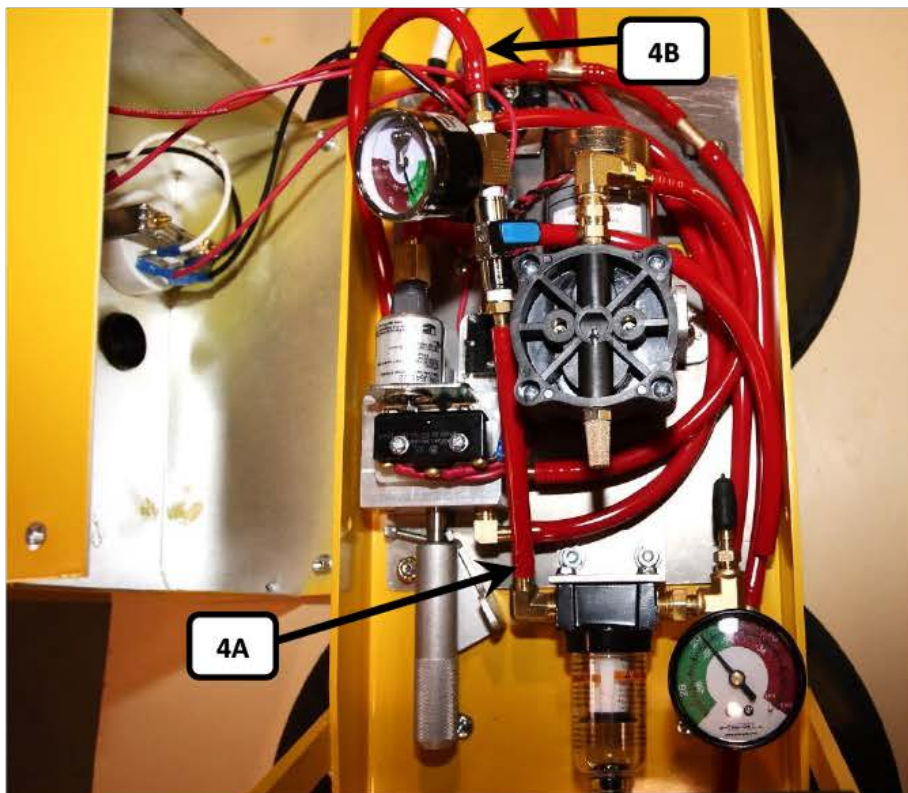

FIGURE 4
- 2) Remove the hose from the vacuum filter (4A) that connects it to the control valve. See FIGURE 4.